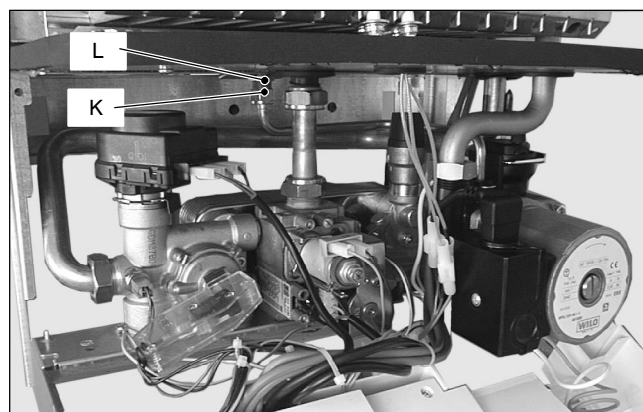

Fig. 52
- 2 Completely unscrew the connection K, the lock-nut L (Fig. 52) and remove the expansion vessel from the top of the boiler.